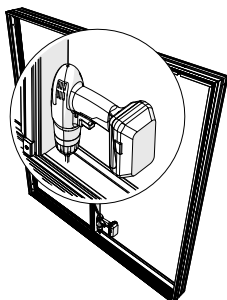

Figure 19: Drill in bottom in wooden part under aluminum cover
17. Fasten with screws under the tread cover with a maximum spacing of 900 mm (figure 19) at the mullion and center of the threshold. Wait to install the tread cover until the door is fully installed and operating correctly. The tread is prepared for installation with doublesided tape